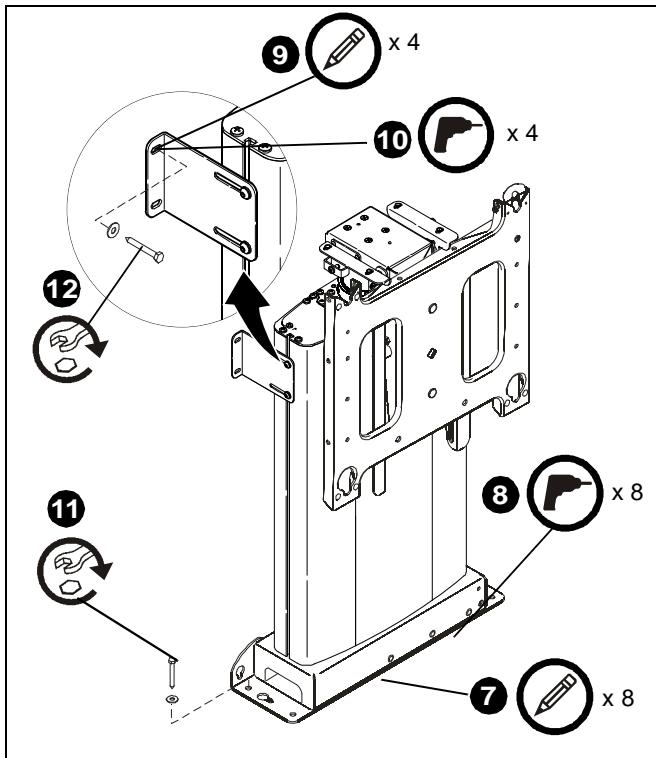

Figure 24
5. Loosen four screws securing side mounting brackets to mount and adjust side mounting brackets until properly positioned against vertical mounting surface. (See Figure 24)
6. Tighten four screws to hold position of side mounting brackets. (See Figure 24)
7. Mark eight base mounting hole locations. (See Figure 24)
9. Mark four side bracket mounting hole locations. (See Figure 24)
11. Secure mount base to mounting surface using eight screws. (See Figure 24)
12. Secure mount to vertical mounting surface using four screws. (See Figure 24)